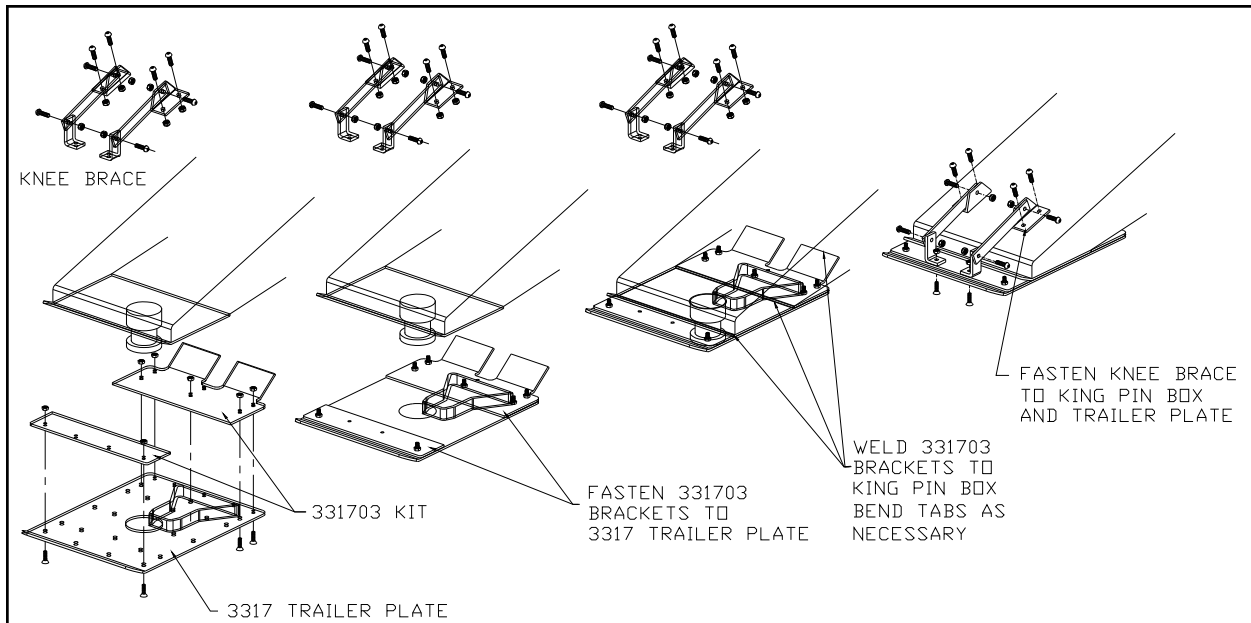

Figure 5
1. Place the Capture Plate {J2} over the king pin, with the guide wedge towards the rear of the trailer (wedge facing down) and measure the distance from the front and rear of the king pin box to the respective edges of the Capture Plate {J2} (to the bend of the Capture Plate {J2} in the front). Referring to Figure 5 below, using the supplied extension plates, fasten plates to the front and back row of holes using the 1/4" bolts and lock nuts provided.
6. See Figure 5 below for diagram and special notes.